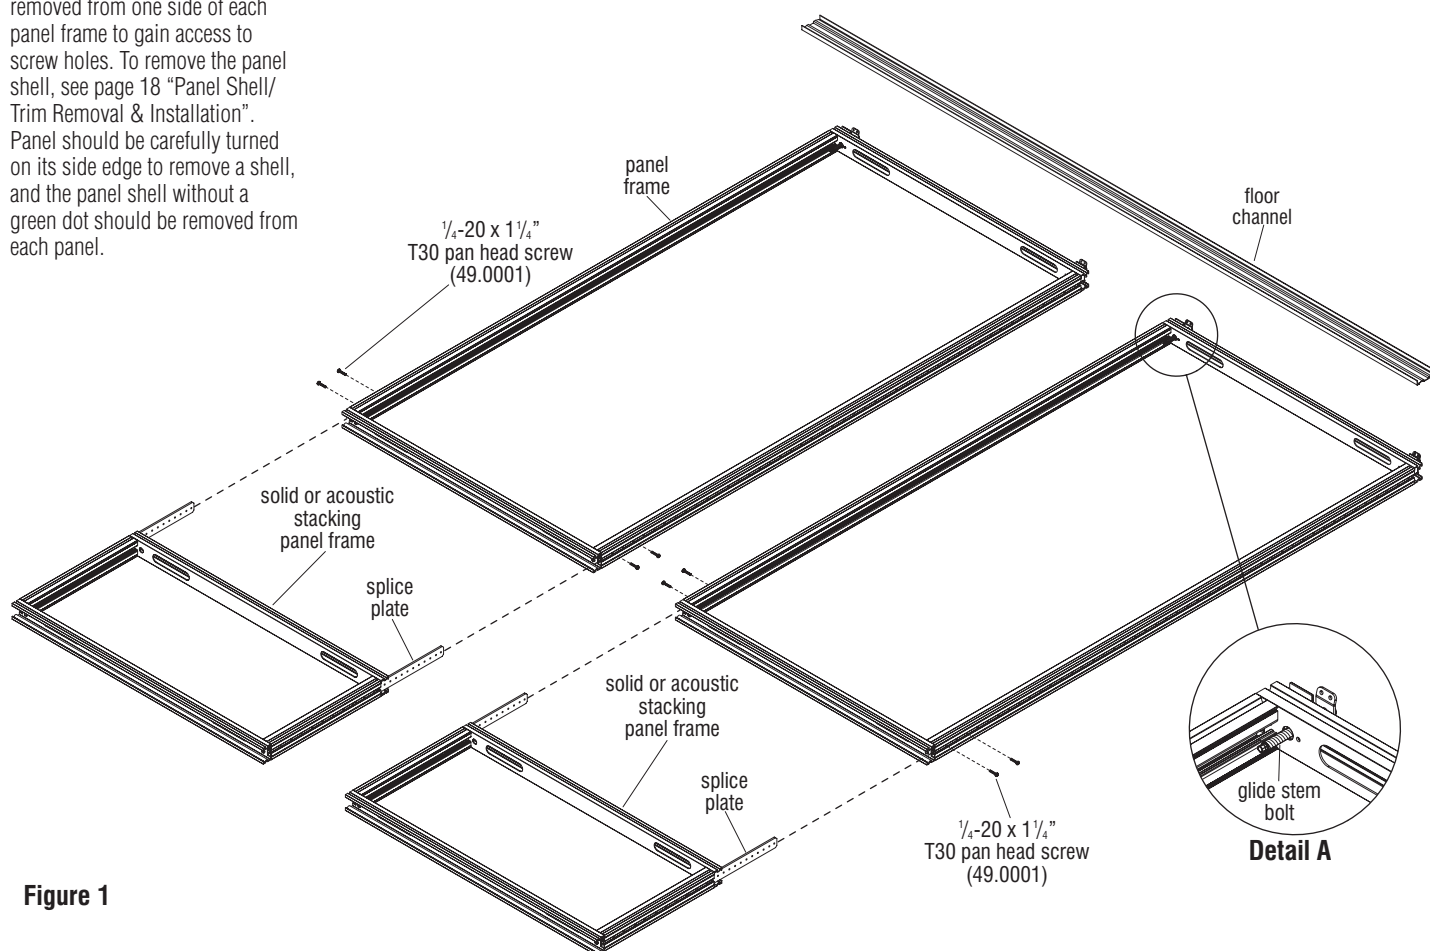

Figure 1
3. After removing the panel shells from the Evoke panels to receive solid or acoustic stacking sections, carefully lay the panels flat onto the floor with the no-panel side face up, and in the sequence as specified by the space-planning layout (Figure 1).
4. Locate and carefully lay the solid or acoustic stacking section onto the floor above the panels to receive them. One stacking section at a time, slide the splice plates into the extrusions of the panel's vertical frame as illustrated. Pressing further, tightly engage the bottom of the stacking section into the top horizontal of the panel frame. While holding the stacking section tight to the top of the panel, use  $\frac{1}{4}$ -20 x  $1\frac{1}{4}$ " T30 pan head screws (49.0001), two at each vertical panel top and secure the splice plates of the stacking section to the holes in the vertical members of the panel frame as illustrated. Repeat for all panel frames in the run to receive solid or acoustic stacking sections (Figure 1).
5. With the panel and solid or acoustic stacking section fully assembled and laying on the floor, use a power drill, 18" extension with  $\frac{5}{16}$ " socket, and twist counter-clockwise to retract both panel glide stem bolts up into the bottom of the panel, to their lowest glide setting (Figure 1 & Detail A).